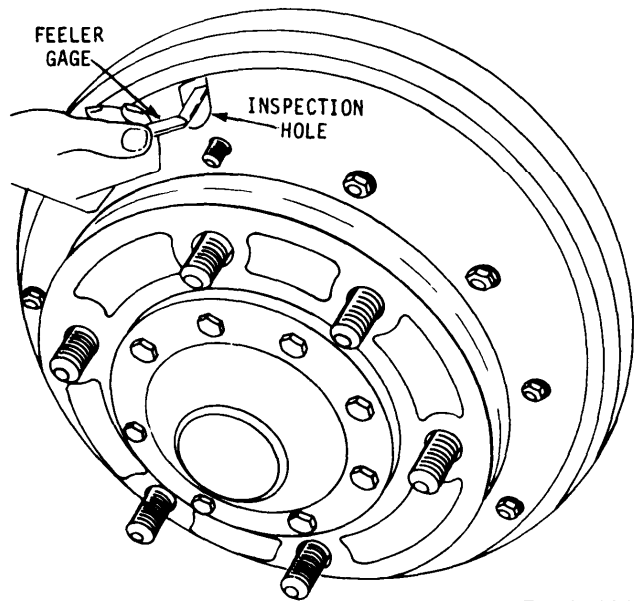

Figure 4-14. Check brake lining clearance.
(1) Open drain cock on air reservoir. Place jack under axle and raise the semitrailer.
(2) Remove wheels (para 4-33).
(3) Remove inspection hole cover from outside of brake drum,
(4) Rotate the drum until inspection hole is 1-1/2 inches from bottom end of the forward brake shoe.
(5) Check brake lining clearance by inserting 0.010-inch feeler gage between the drum and bottom end of the shoe (fig 4-14).